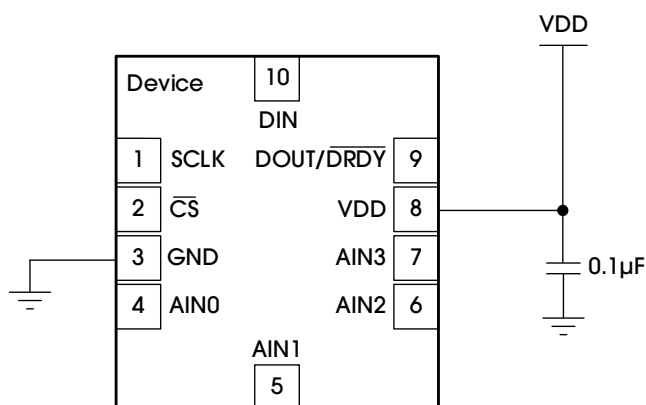

Figure 37. Power Supply Decoupling
Good power-supply decoupling is important to achieve optimum performance. VDD must be decoupled with at least a 0.1 μ F capacitor, as shown in Figure 37. The 0.1 μ F bypass capacitor supplies the momentary bursts of extra current required from the supply when the ADX112(Q) is converting. Place the bypass capacitor as close to the power-supply pin of the device as possible using low-impedance connections. It is recommended to use multilayer ceramic chip capacitors (MLCCs) that offer low equivalent series resistance (ESR) and inductance (ESL) characteristics for power-supply decoupling purposes. For very sensitive systems, or for systems in harsh noise environments, avoiding the use of vias for connecting the capacitors to the device pins may offer superior noise immunity. The use of multiple vias in parallel lowers the overall inductance and is beneficial for connections to ground planes.